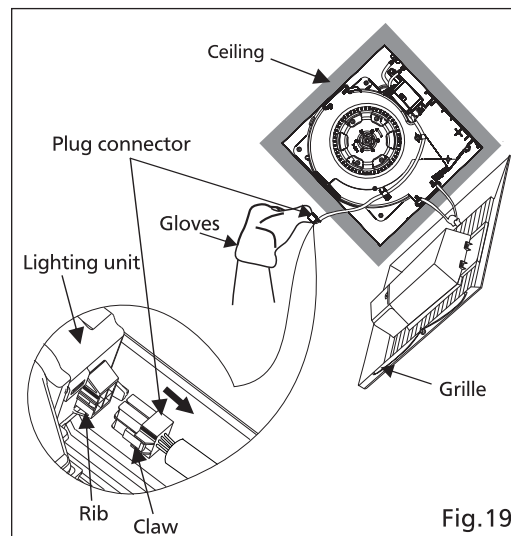

Fig.19
1. Remove grille by pulling down one mounting spring. Remove plug connector then pull down the other mounting spring. (Squeeze mounting spring and pull down carefully) (Fig.19)